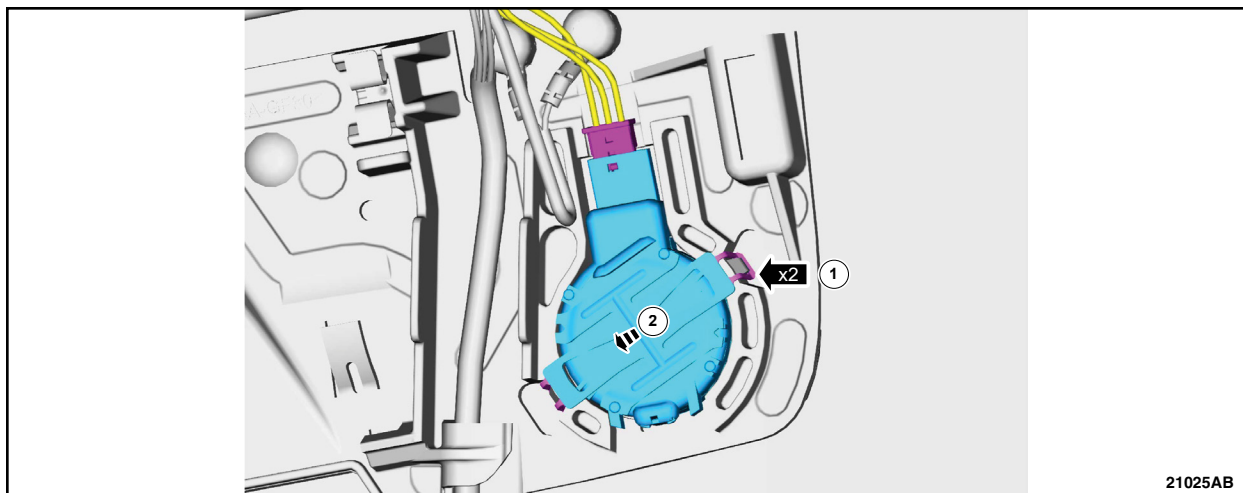

FIGURE 22
25. Remove the rain sensor. See Figure 22.